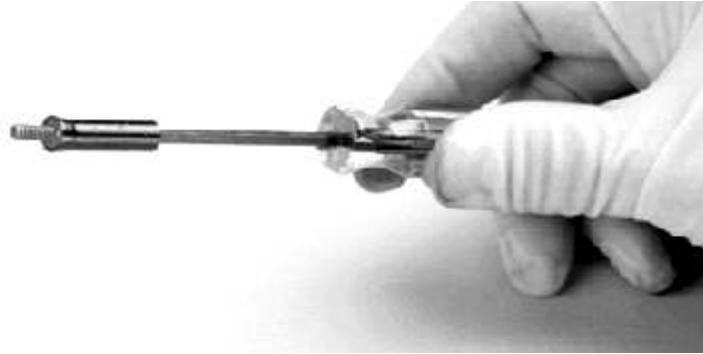

Figure 3-5. Socket-head screw correctly retained by sleeve on end of Allen driver
5. Screw one of the screws you removed from the crucible cover back into one of the holes in the coil housing. Using the special Allen tool, practice inserting the end of the tool into the hexagonal socket in the end of the screw while ensuring that the sleeve extends down far enough over the screw's head so that the screw is held securely by the sleeve after the screw is removed from its threaded hole (see Figure 3-5).
Perform the steps described below when installing a new crucible or reinstalling the same crucible. Be sure to follow the correct procedure when placing the crucible into the crucible well and lowering it onto the crucible mounting flange. It is also critical to follow the correct procedures when replacing the crucible mounting screws. In particular, avoid dropping screws down into the source, as it may not be possible to retrieve them without disassembling the source further. For best results, make sure each screw is held by the special Allen tool as shown in Figure 3-5 before attempting to insert the screw in place.